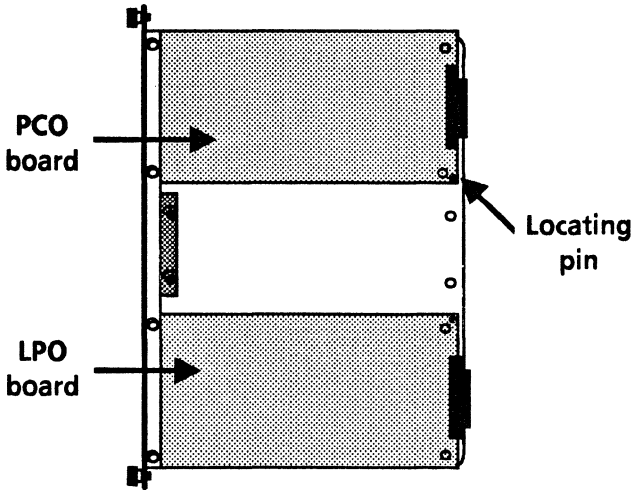

Figure 2-5 C5 shield with LPO and PCO boards
8. Place the PCO board on the upper section of the new C5 shield, making certain that the locating hole in the lower right corner of the PCO board is seated on the locating pin on the shield (Figure 2-5).